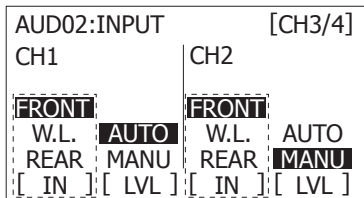

Fig. 4
- 4 According to the audio channel to be recorded, switch the input signal to [FRONT] on the [AUD02:INPUT] screen of SmartUI. (Fig. 4)